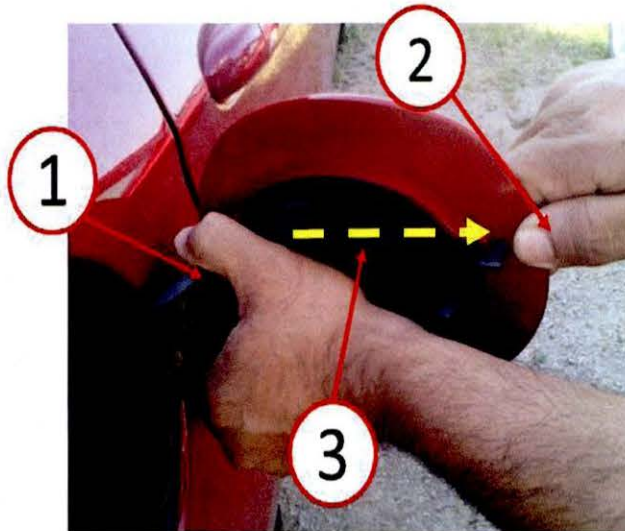

Fig. 2 Fuel Filler Door Inspection
7. Inspect the fuel fill door and verify it is fully seated. With the fuel door open perform a light push pull around the fuel fill door. Grasp the fuel fill door hinge (1) with one hand and position the other at the rear edge of the door (2) lightly pulling out board (3) at the locations shown in (Fig. 2).